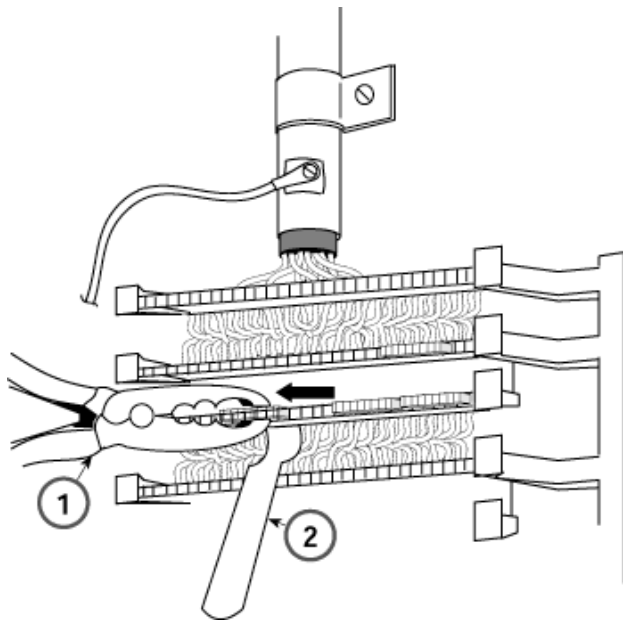

Figure 3-16. Removing the Connecting Block
- Place a 788K1 retainer tool against the conductor pairs beneath the connecting block to be removed. See Figure 3-16.
- Use pliers to grip the connecting block in the center. See Figure 3-16.